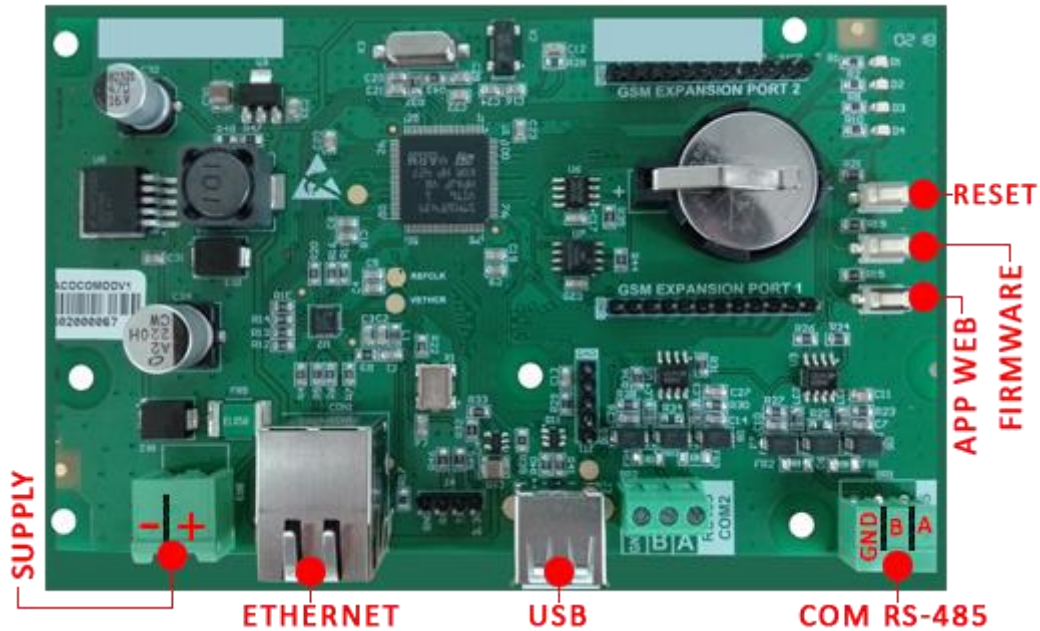

Figure 2. Distribution of the Remote card modules.
The Remote card consists of the modules shown in Figure 2.
3. Restart the Remote's card, pressing the **Reset** button for 3 seconds (shown in Figure 2).
2. From the control panel menu, keep the port number (80) by default and configure the local IP and mask of the Remote card (if necessary) to it be in the same range of PC. **Note:** Check local IP and mask of PC to know the range.